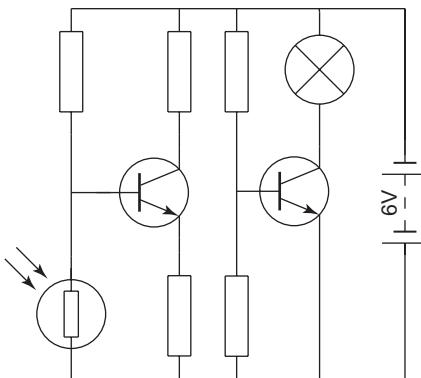

Fig. 9.18 Example using the **DesignCenter** – the completed circuit
Using the DesignCenter (Fig. 9.18)
6. Complete the circuit drawing as shown in **Fig. 9.18**.
Figure 9.18 does not represent an authentic electronics circuit.